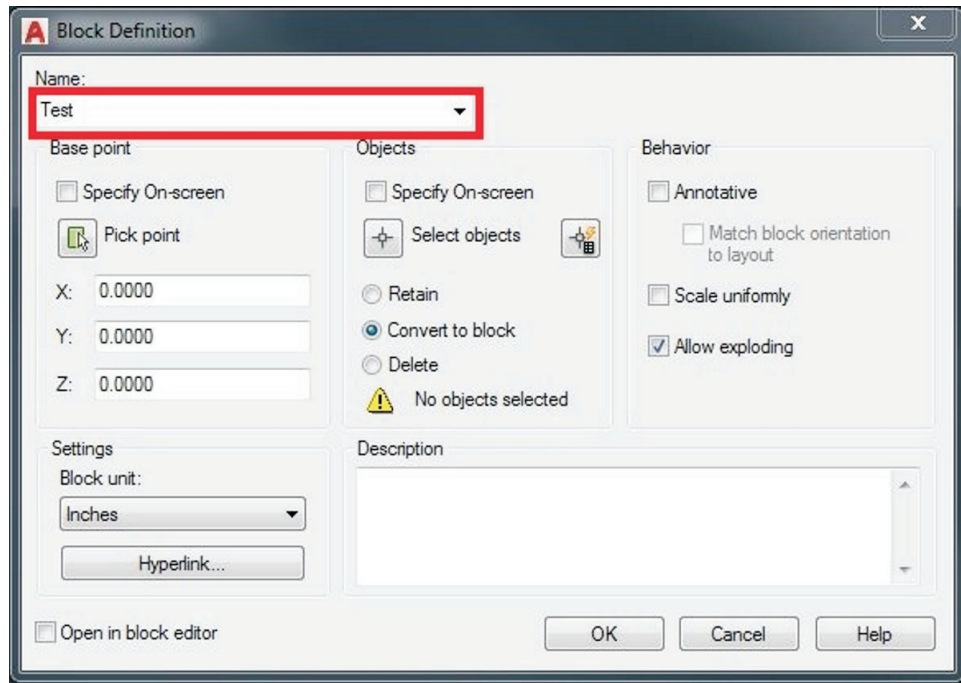

FIGURE 5. AutoCAD's Block Definition Window With 'Test' Name. (AutoCAD screen shot reprinted with the permission of Autodesk, Inc.)
- ◆ Type in the name of the block that will be created. For this exercise, you type in the name 'Test' as shown in FIGURE 5.